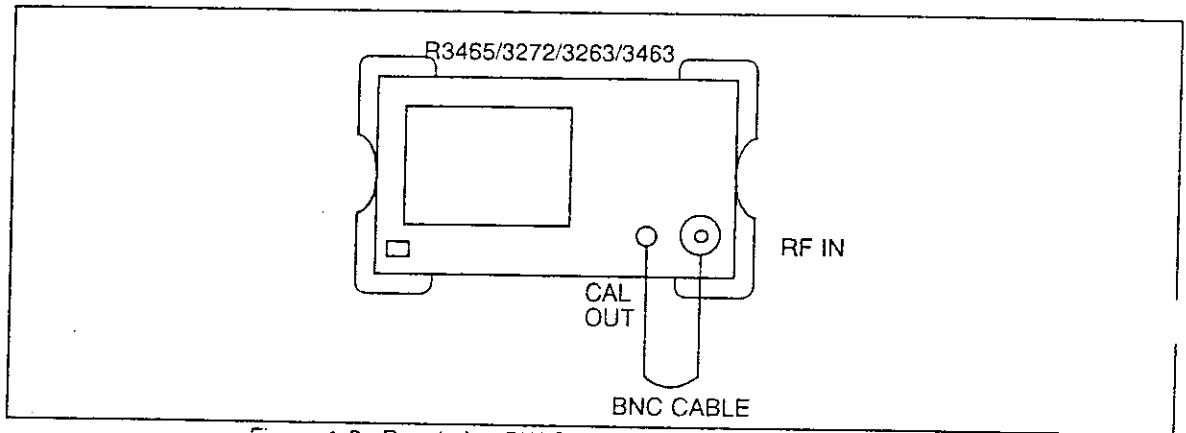

Figure 1-6 Resolution BW Switching Uncertainty Test Setup
(1) Connect the R3465/3272/3263/3463 CALOUT to the RF IN as shown in Figure 1-6.
(2) Press the , , , , and keys.